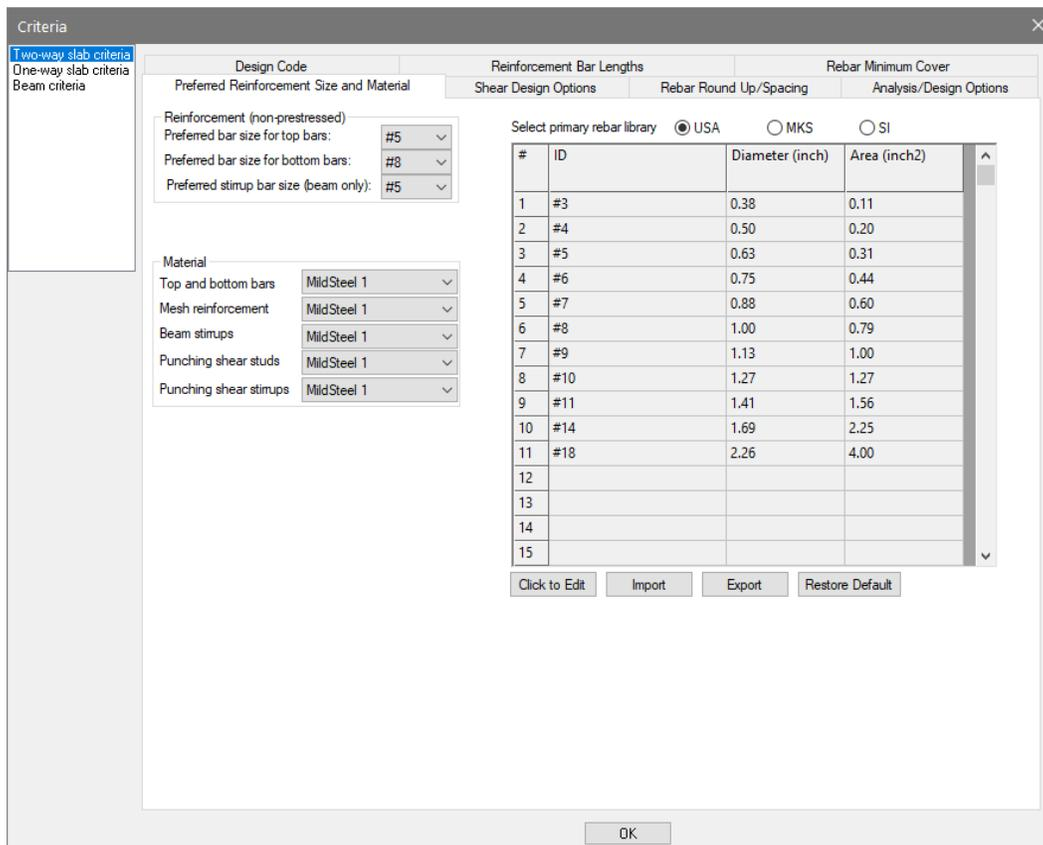

Figure 2-12
- Click on the *Preferred Reinforcement Size and Material* tab. This will open the window from **FIGURE 2-12**.